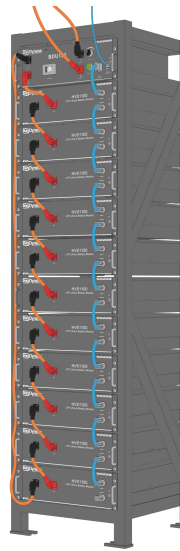

Figure 3-6
4. Stack the required number of battery and BDU as described above, and use 4 screws to fix the battery and BDU on the front bracket. Shown as Figure3-6.